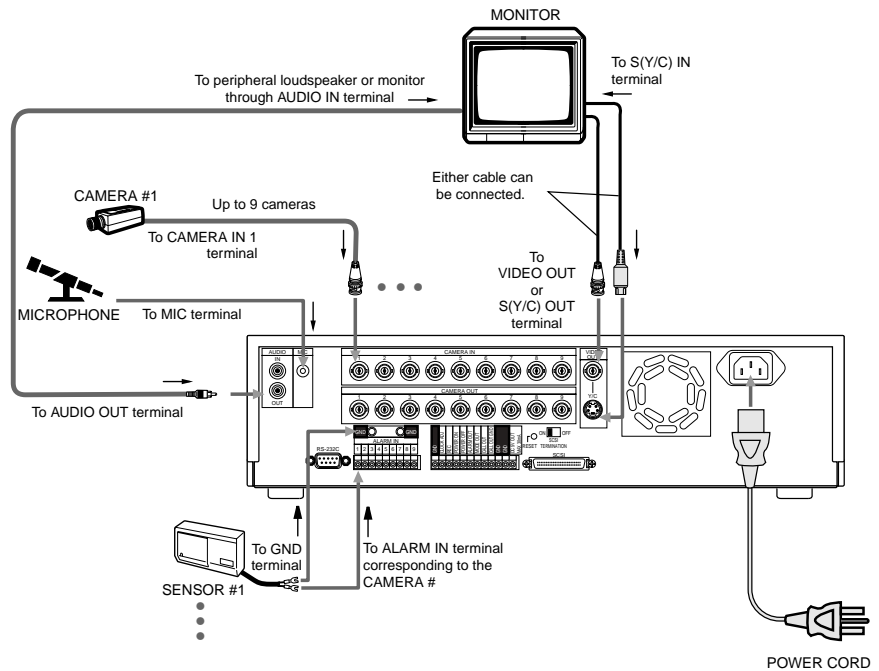

Figure 5. Equipment Connections (DX3009 Model Shown)
1. Connect cameras, monitor, and audio equipment to the recorder as shown in Figure 5.
2. Connect alarm inputs and alarm output as shown in Figures 5 and 6. Figure 7 shows schematics for the alarm circuits.